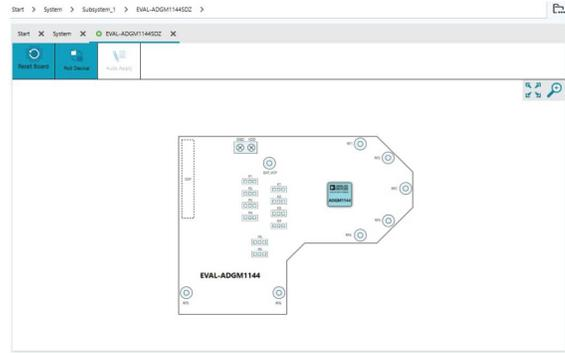
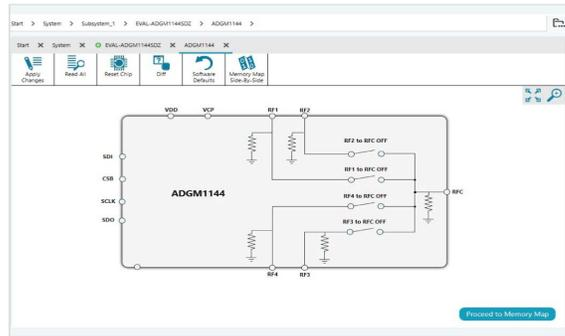

Figure 3. Evaluation Board View of the EVAL-ADGM1144SDZ
Figure 4. Chip Block Diagram View for the ADGM1144
7. Double-click the EVAL-ADGM1144SDZ plug-ins to open the evaluation board view in Figure 3.
8. The chip block diagram can be accessed by double-clicking the **ADGM1144** chip (see Figure 3). The view after clicking the **ADGM1144** chip provides a basic representation of functionality of the EVAL-ADGM1144SDZ. The main functions are labeled in Figure 4.